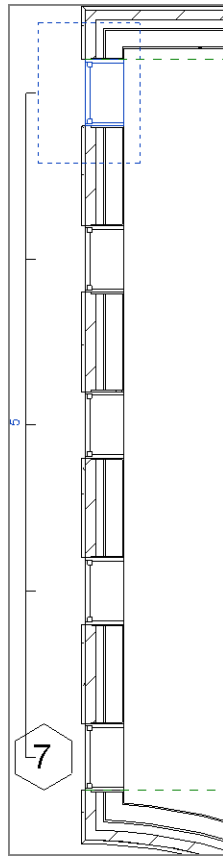

FIGURE 4.24: Selecting the items to be mirrored. Make sure you don't select the wall in which the windows reside.
2. Select the windows starting from the upper-left corner to the lower-right corner, as shown in Figure 4.24. Remember, you can look at the bottom-right corner of the Revit window to verify that you have five windows selected.